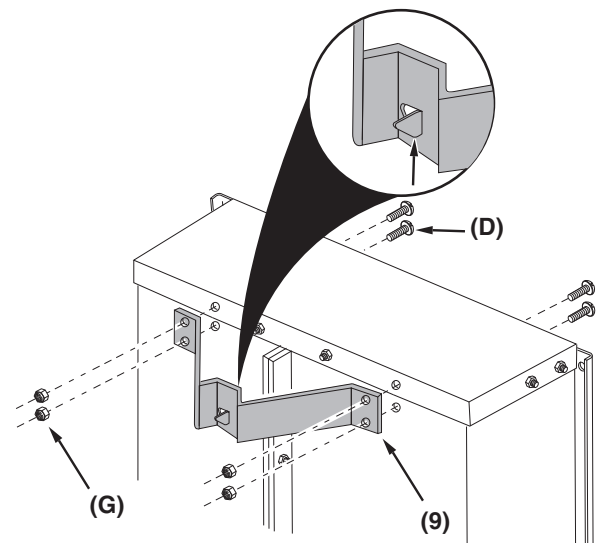

Figure 14
**STEP 14 (SEE FIGURE 14):** Attach the latch stand bracket (9) to the cart bed and front panel (8) using four 5/16" truss head bolts (D) and 5/16" nylock nuts (G). Make sure to orient the tab on the latch stand bracket as shown in figure 14.